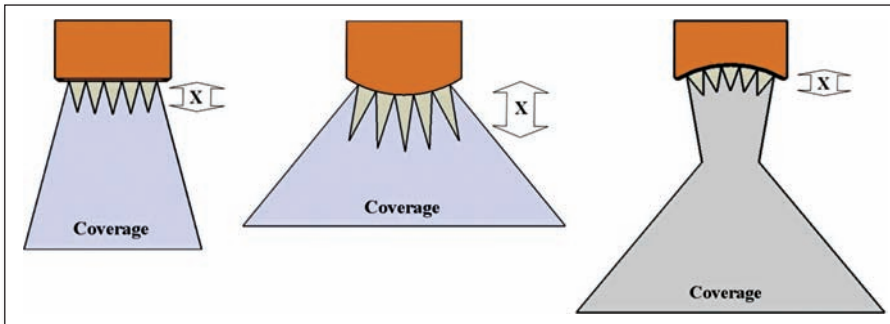

FIGURE 2: Dispersion versus wave-front integration.
The CurveArray (CA) design spaces tweeters far wider than usual in a line array. The reason is shown in Fig. 2. On the left is a straight array; the shaded area represents the typical 15° high-frequency dispersion angle you may expect from a horizontal array. "X" is the distance from the array where the individual wave fronts integrate at a sample frequency. Minimizing dis-